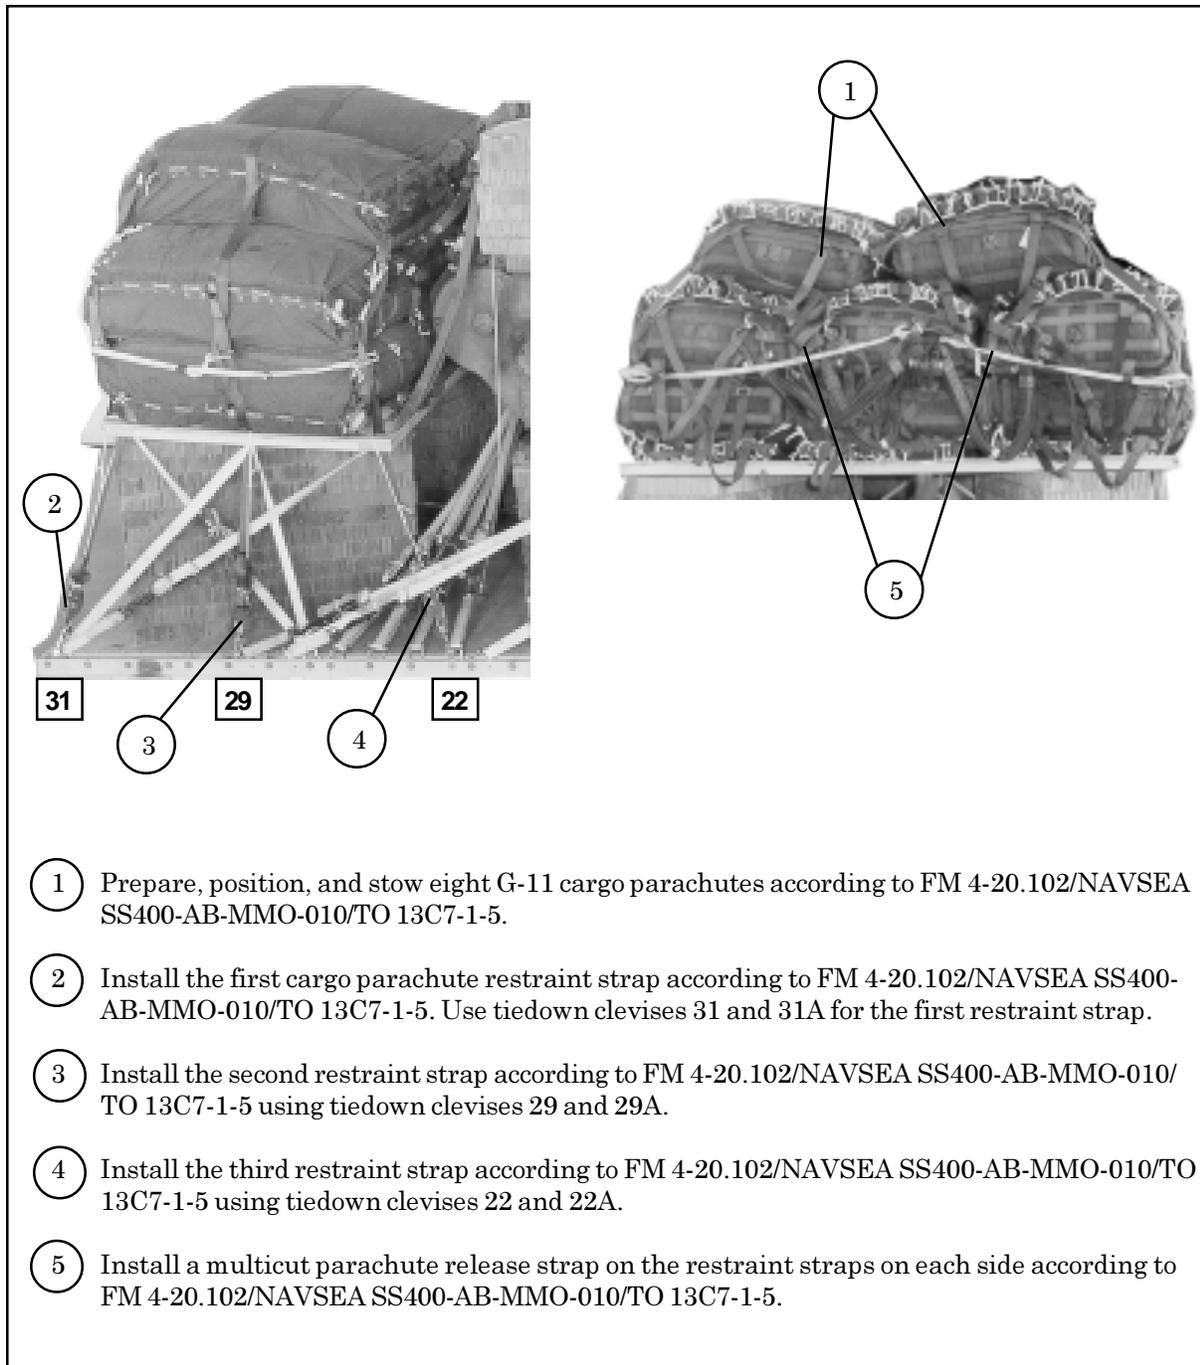

Figure 2-26. Parachute Stowage Platform Positioned, Secured, and Stowed
c. *Stowing Parachutes.* Stow the parachutes as shown in Figure 2-26.